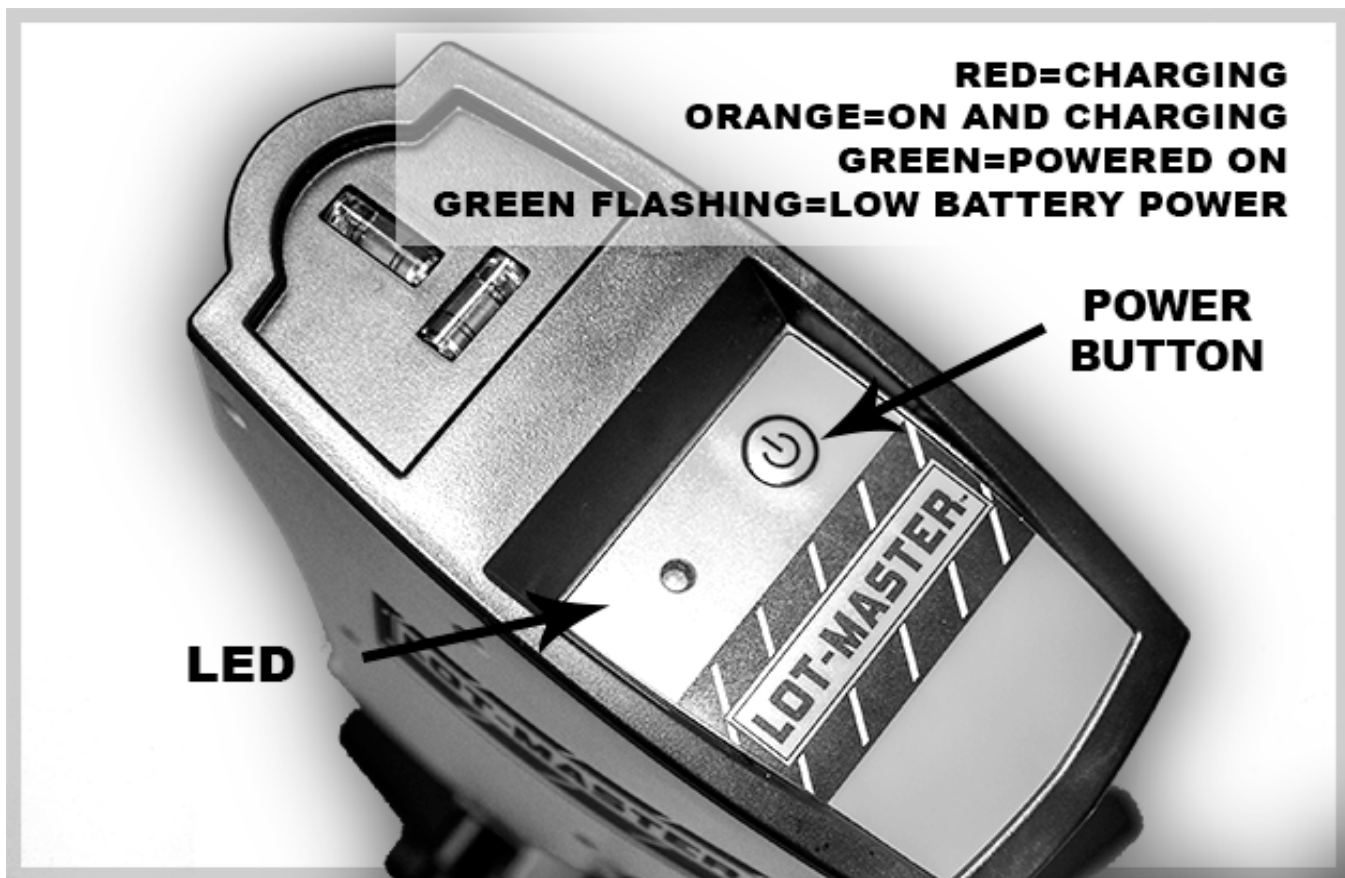

Fig.10
Unit is turned on at the time of charging, the LED indicator will be a slight orange color. (See *Figure 10*)
6. Power the unit up by pressing the on/off button located on the indicator panel on the top of the Infrared Head Unit. A Green LED will light up when power is on. However, if the batteries are low, the indicator will be flashing Green. (See *Figure 10*)